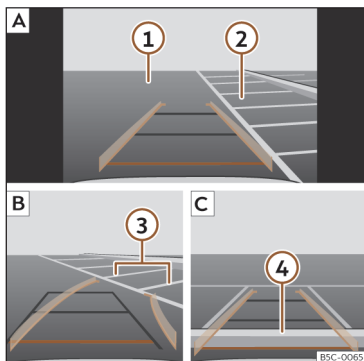

Fig. 155 Display on the infotainment system screen: parking with the reverse assistant.
Key to the >>> **Fig. 155:**
- Stop the vehicle in front of the parking space >>> **Fig. 155 2 A**.